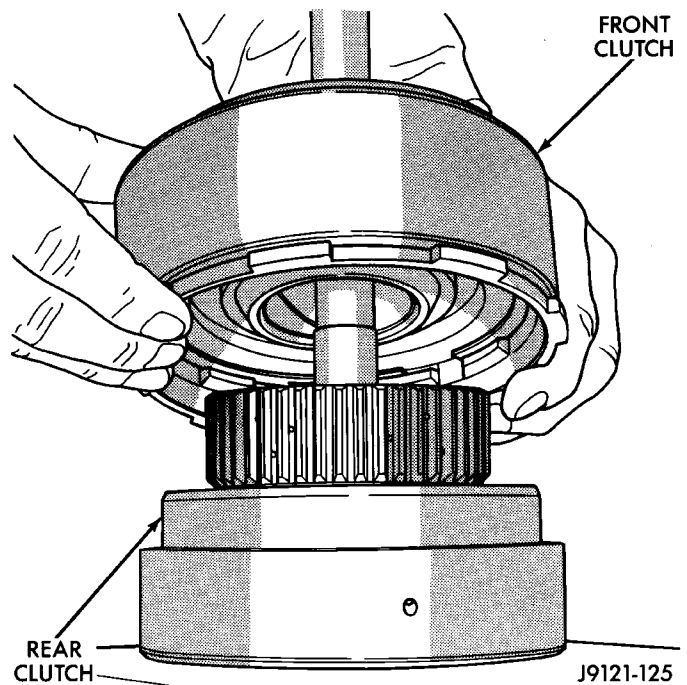

Fig. 98 Separating Front/Rear Clutch Assemblies
(23) Lift front clutch off rear clutch (Fig. 98). Set clutch units aside for overhaul.